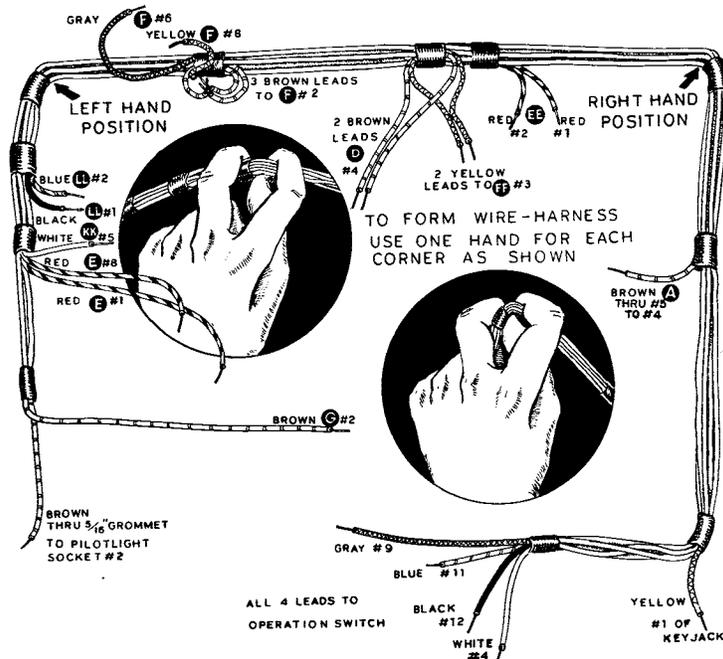

Figure 7
- () Locate the 5-wire breakout in the wiring harness that should come directly underneath pin #1 on accessory socket F on the rear apron. See Pictorial 2. These are the three brown filament wires, one yellow cathode wire and one gray relay control wire. The wire harness is bent just above the tape points shown. Hold the cable in both hands as shown in Figure 7 on the following page. Apply pressure with both thumbs. Try the cable fit by slipping it under the crystal switch and the accessory socket. If the wires do not come at appropriate points as shown in Pictorial 2, rebend cable to bring breakouts opposite, or near their connection points.